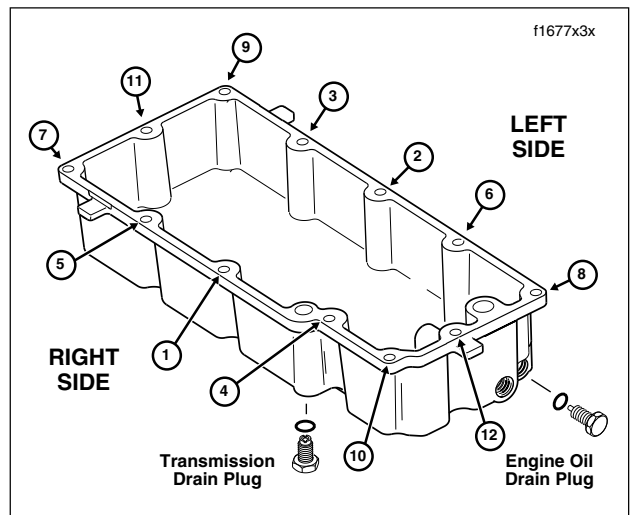

Figure 7-44. Oil Pan Torque Sequence
- See Figure 7-44. Remove both the engine oil and transmission lubricant drain plugs from the oil pan. Drain the fluids into suitable containers.
5. Tighten the oil pan bolts to 84-108 **in-lbs** (9-12 Nm) following the numerical sequence shown in Figure 7-44.